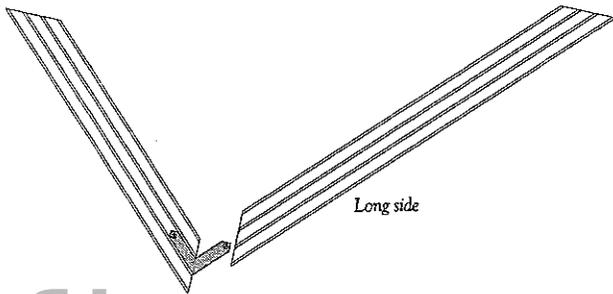

Figure 31.
- Put one of the L-shaped brackets into the center groove on a short molding section Fig 31. Be sure the slotted side of the screw faces up. Slide the bracket in as far as it will go. Tighten the screw.